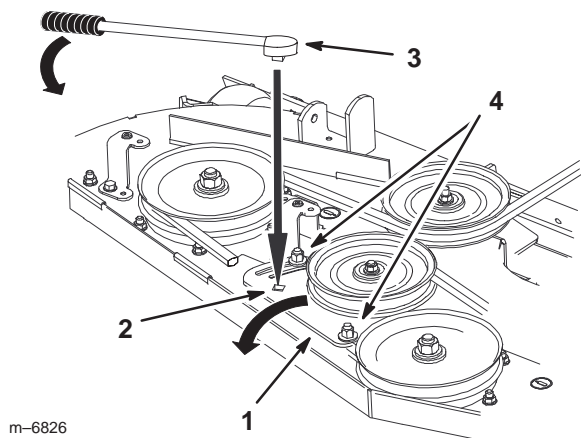

Figure 77
4. Loosen the nut securing the idler plate and move the idler plate to relieve the belt tension on the idler pulley, then remove the worn mower belt (Fig. 77).
5. If adjustment is required, loosen the mower idler plate and adjust it (Fig. 77).
6. Insert a ratchet or breaker bar into the square hole in the mower idler plate to adjust the tension (Fig. 77).
7. To increase belt tension, rotate the mower idler plate until resistance is felt and rotation stops. Do not go past when it stops (Fig. 77).
8. Tighten the idler plate bolts (Fig. 77).
10. Adjust the belt tension and the idler plate, if necessary, and tighten all hardware securely (Fig. 77).